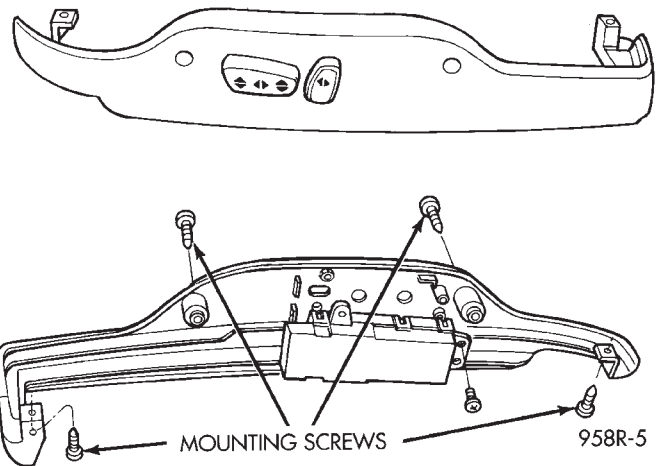

Fig. 3 Switch Removal
- (1) Remove left cushion side shield (Fig. 3).